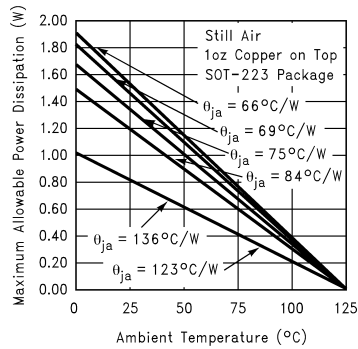
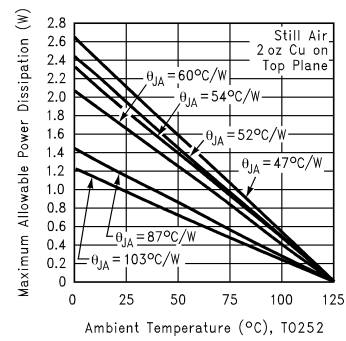
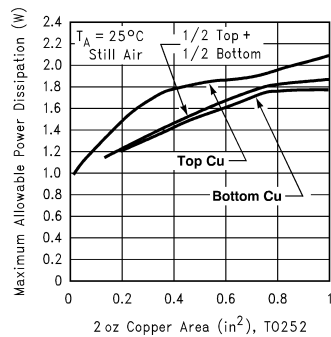

FIGURE 9. Maximum Allowable Power Dissipation vs. Ambient Temperature for SOT-223
FIGURE 10. Maximum Allowable Power Dissipation vs. Ambient Temperature for TO-252
FIGURE 12. Maximum Allowable Power Dissipation vs. 2oz Copper Area for TO-252
*Figure 9* and *Figure 10* shows the maximum allowable power dissipation vs. ambient temperature for the SOT-223 and TO-252 device. *Figure 11* and *Figure 12* shows the maximum allowable power dissipation vs. copper area ( $\text{in}^2$ ) for the SOT-223 and TO-252 devices. Please see AN1028 for power enhancement techniques to be used with SOT-223 and TO-252 packages.